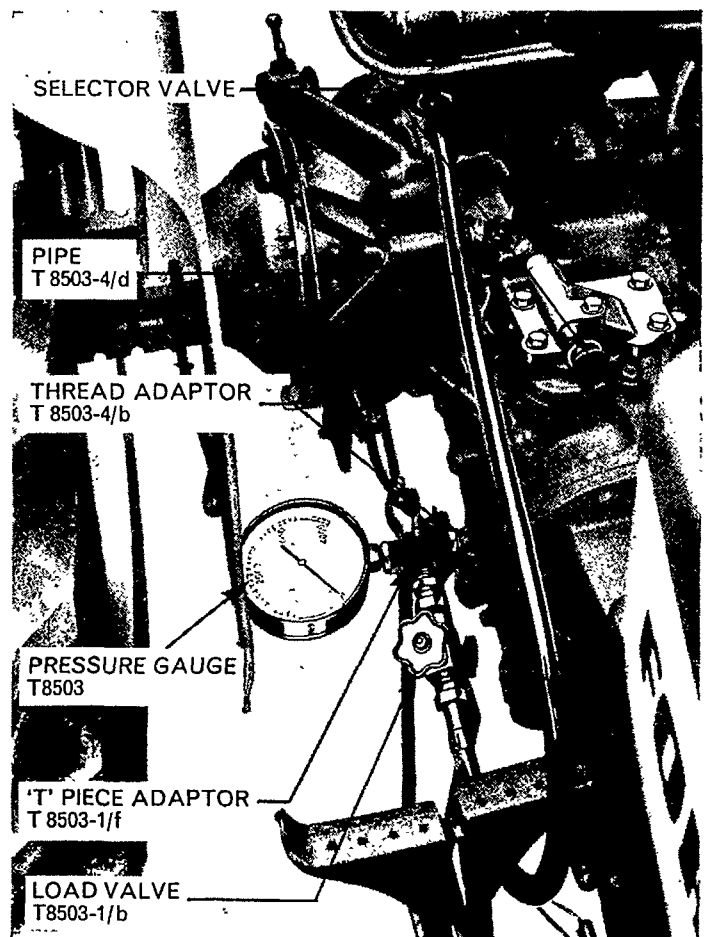

Figure 104
2. **When fitted with Selector Valve:** Prior to starting the engine check that the accessory plug, situated at the top of the selector valve housing is tight to prevent oil leaking around this area. Place the lift control lever at the bottom of the quadrant and pull the selector valve out to the furthest position, Figure 104.